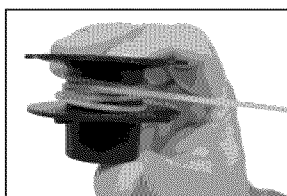

Figure 26 - Winding Line Around Spool
5. Evenly and tightly wind line around spool in the direction shown on bottom of spool. Continue winding until line is just below rim of spool. (See figure 26). Do not over fill. Overfilling can cause jams.